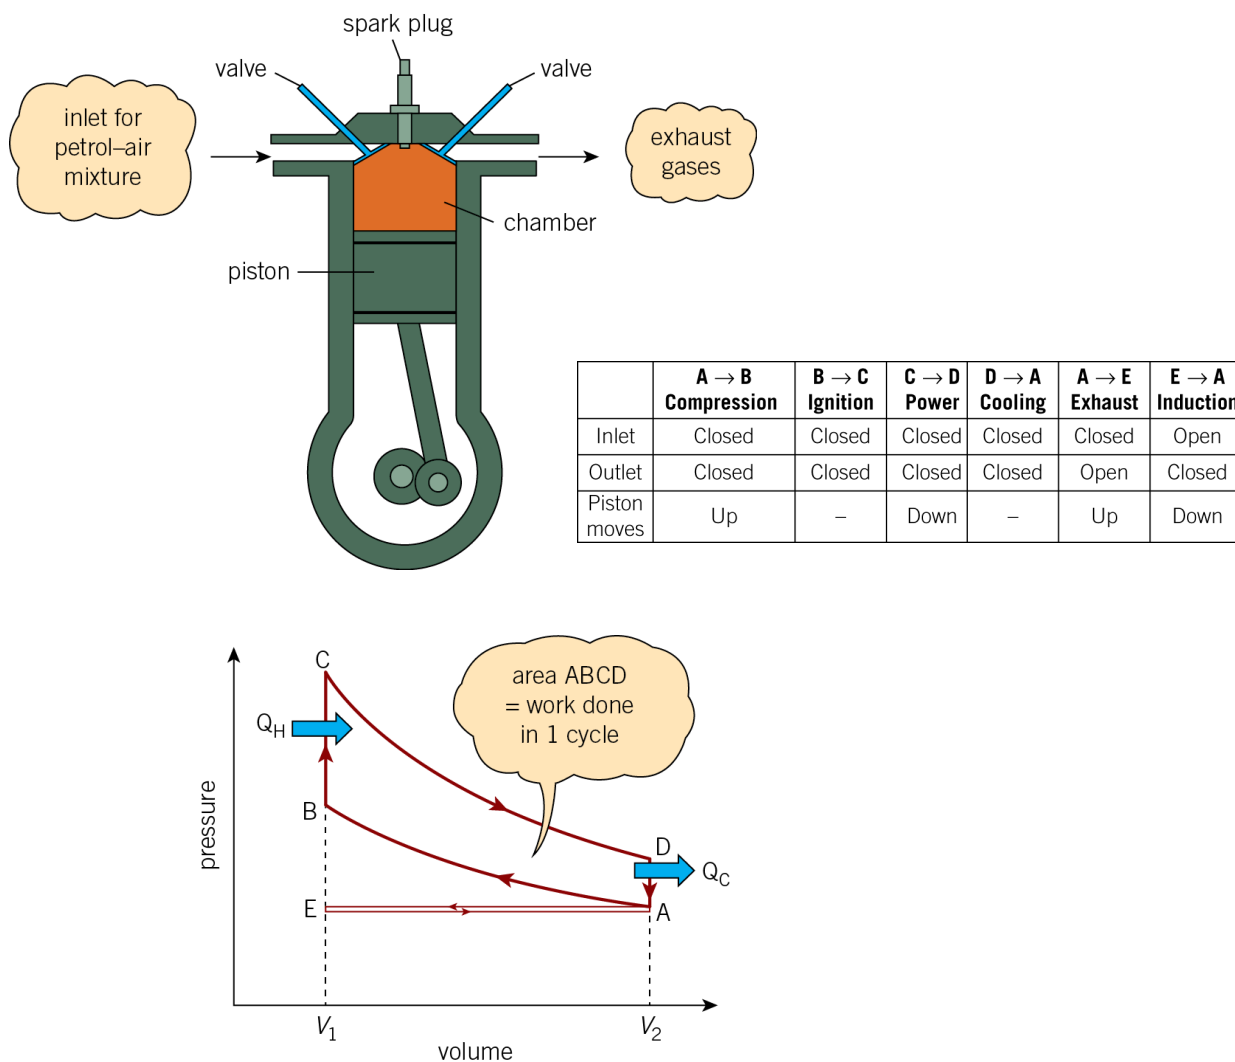

Figure 4 The four-stroke petrol engine
The petrol engine uses air as the working substance, heating it by internal combustion. Figure 4 shows the pressure changes in one cylinder of a four-cylinder petrol engine in one complete cycle. The cylinders fire sequentially, thus maintaining the motion of each cylinder.
The graph in Figure 4 is referred to as an **indicator diagram**. It is based on the assumption that there is a fixed mass of air in the cylinder throughout each cycle obeying the gas laws. This idealisation, called the **Otto cycle**, is not strictly correct since oxygen from the air and petrol vapour burn in the cylinder. Also, the pressure and temperature in the cylinder at any instant vary within the cylinder. Nevertheless, the idealised diagram is very useful to understand the thermodynamics of the petrol engine and can be compared with similar diagrams for other types of engines to compare their efficiencies.
- does work during the power stroke (i.e., from C to D) and has work done on it during compression (i.e., from A to B). The net work done by the working substance is represented in Figure 4 by the area enclosed by ABCD and is referred to as the **indicator loop**.